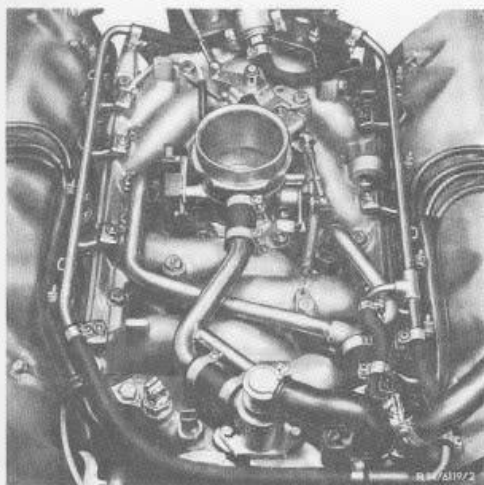

FIG. 21
1. During the 1st and 2nd service, all fuel hose clamps (Fig. 21) must be checked for tightness. This should be carried out with a cold engine and overtightening must be avoided.